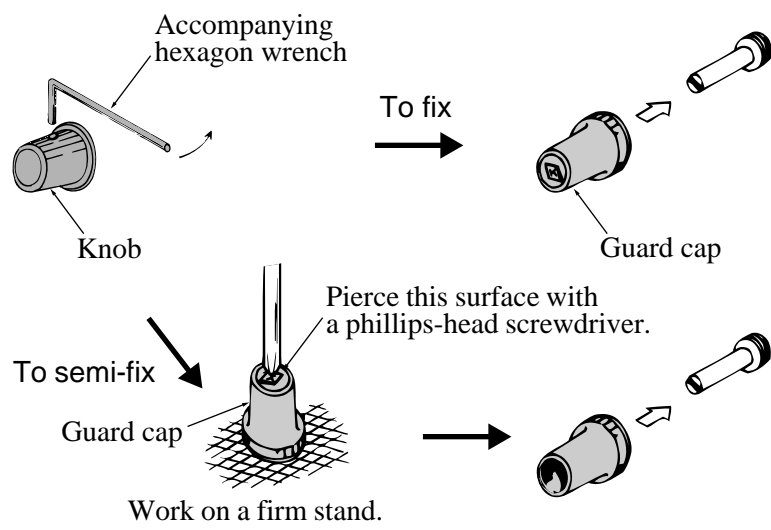

Fig. 3-4 Mounting the guard cap
5. As shown in Fig. 3-4, pierce the guard cap top with a phillips-head screwdriver.